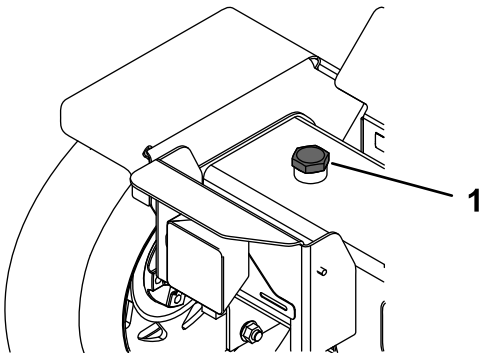

**Figure 33**
4. Clean around the breather cap (Figure 33).
5. Remove the breather cap (Figure 33).
7. Remove the dipstick and verify that the fluid is at the upper notch (Figure 33). Install the breather cap.
**Note:** The fluid level should be at the upper notch on the dipstick on the breather cap (Figure 33)